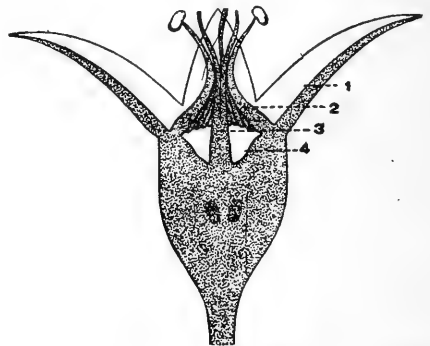

Fig. 182.—Sectional diagram of an apple blossom.
9. Parts of the blossom. Fig. 182.
- h. Calyx cup. Fig. 182.